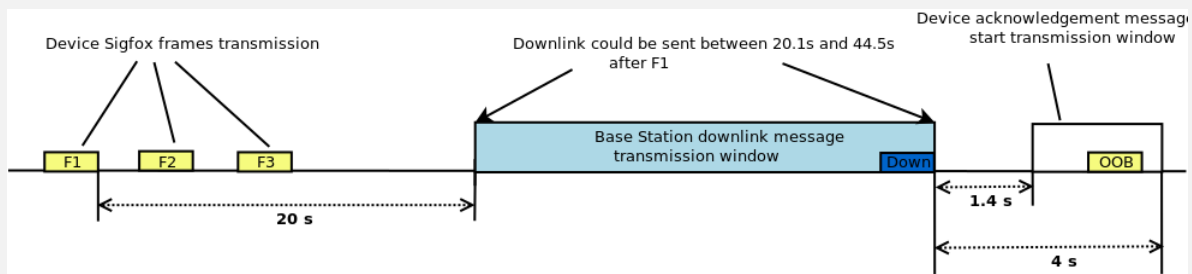

Figure 2: Downlink Timings (last chance to receive downlink frame case)
*Specification Description:* After receiving the downlink frame, *Device* or *Modular Design* has to wait 1.4 s and no later than 4 s before sending the acknowledgement frame (OOB), following the implementation described in the figure 2.